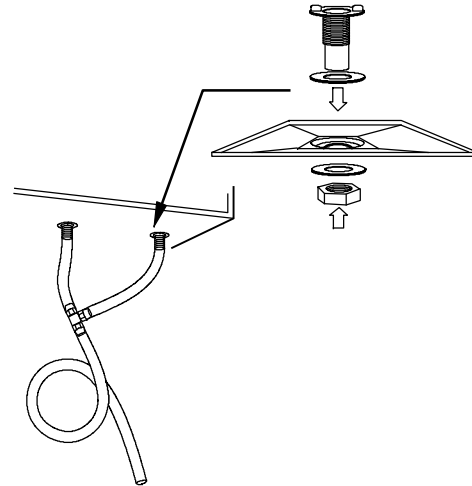

Fig. 9 - Condensate Drain With Loop Trap (HRV Only)
1. Punch out holes in foam insulation and door, then insert sleeved grommets into bottom of unit using the gasket washer and nut. See Fig. 9.
4. Make a loop in the tubing below the "T" connector to create a trap to prevent sewer gases from entering the ventilation system. See Fig. 9.